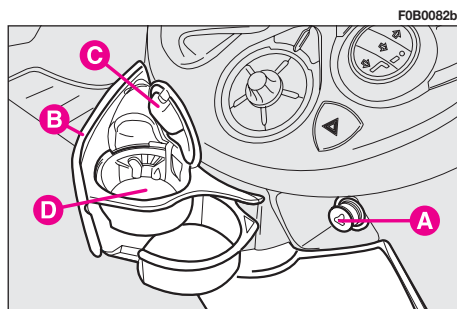

fig. 135
**CIGAR LIGHTER fig. 135**
The passengers in the rear seats can use the ashtray by placing cup **D** in the removable litter container **E** as illustrated in fig. 135.